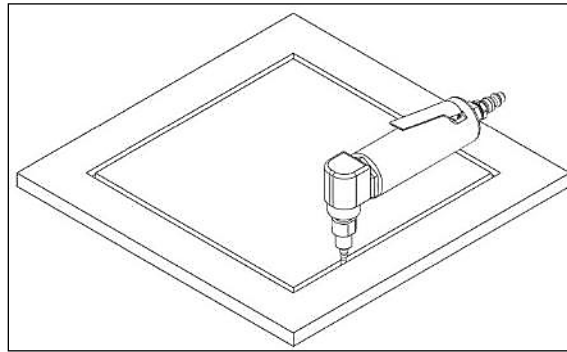

Figure 5. Tool and Gap Alignment
- 3.2.2. With the body of the pneumatic 90 degree grinder in line with the gap filler to be removed, begin to remove the material by pushing or pulling the pneumatic 90 degree grinder along the gap at a slow, steady rate. See **Figure 5**.